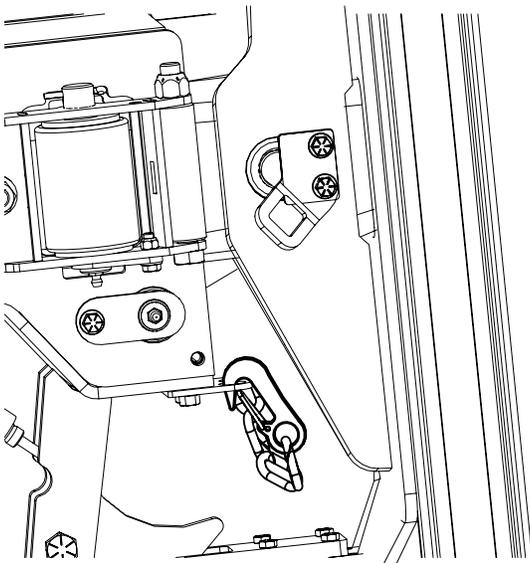

Figure 8: When the arm is in use, make sure the chain is hooked onto the boom retainer plate.
4. After disconnecting the latch chain from the arm, stow the arm latch chain by hooking the clip to the larger hole on the boom retainer plate (Figure 8) while the ZR is not in transit.